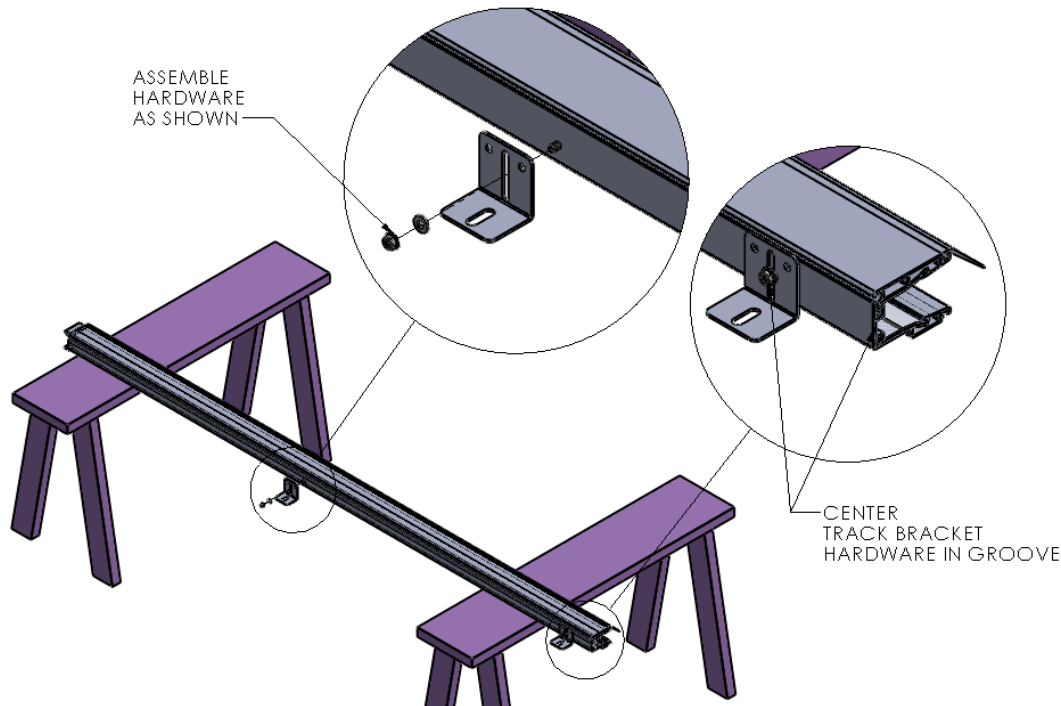

Figure 7 TRACK MOUNTING BRACKET
1. Attach a Track Mounting Bracket to the Track in the hole located at the bottom (Figure 7 TRACK MOUNTING BRACKET)
2. Mark and Drill the Track (.28-.31 dia) at 1.44” in from the front edge (i.e. centered in the groove), at about mid-height of the Track. (Figure 7 TRACK MOUNTING BRACKET)